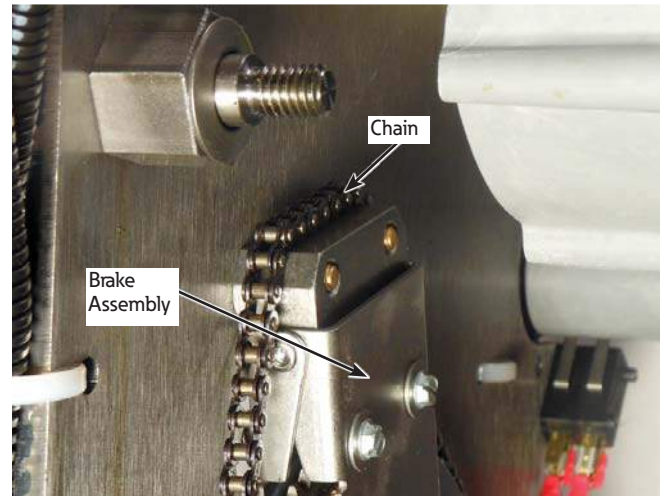

Figure 7. Removal of the chain
7. Remove the chain from the motor sprocket and set it on the brake assembly as shown in Figure 7. Lift the motor out of the relief area.